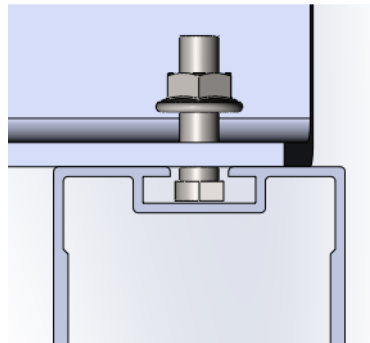

Fig. 15
4.5.1 Apply T-head bolt M8 * 25 for Angle AL installation. Slide the bolt head into the U-slot of Slotted Al-Tube and rotate the bolt slightly as shown in Fig.15.